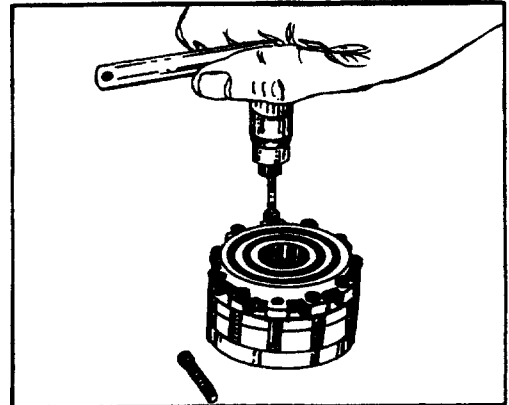

FIGURE 23.
remove cap screws 27. Remove the eleven hex socket head screws (18), that hold the metering package together. See figure 23. Use a 3/32 inch Allen wrench. Inspect screws for thread and socket damage and replace as required.